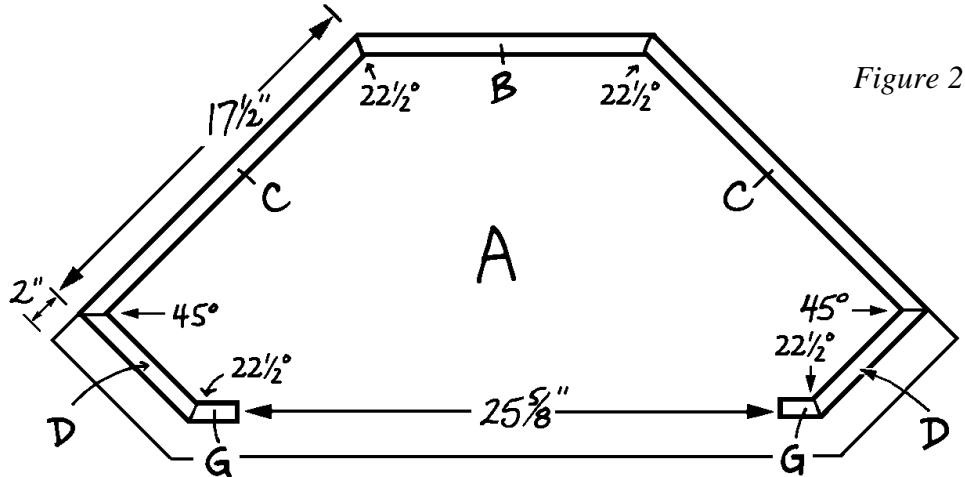
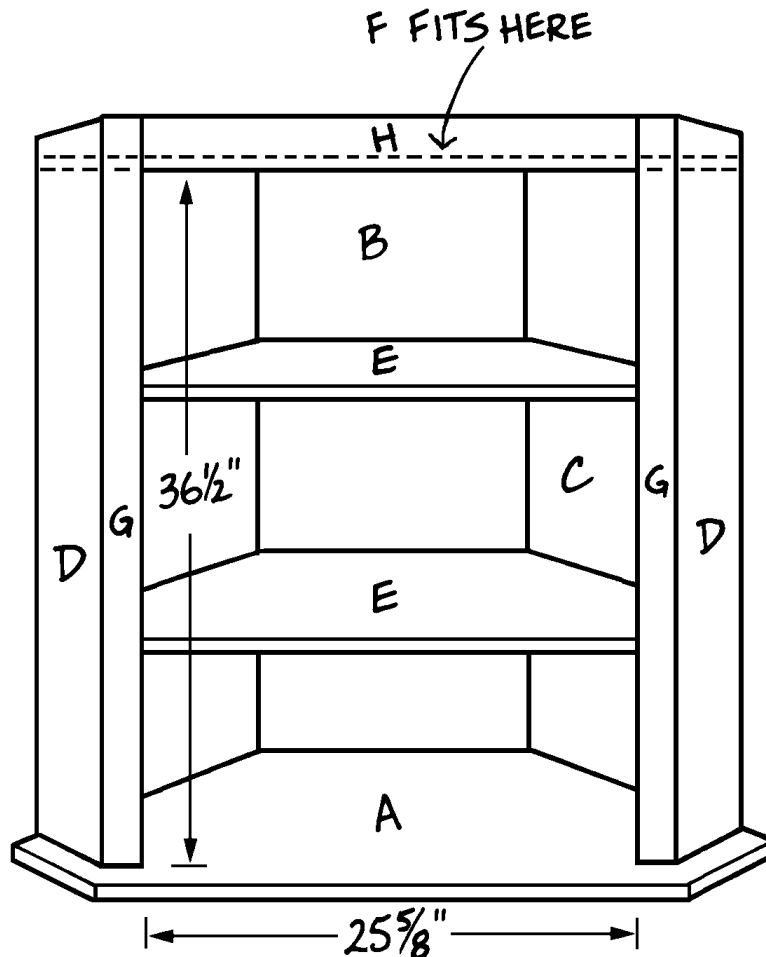

Figure 2
Figure 3
2. Cut one 13-1/2" x 40" upper back (B) from 3/4" thick plywood.
3. Bevel both 40"-long edges of the upper back (B) at 22-1/2" degrees. *Figure 2* shows the angle cuts for all of the beveled edges of the upper cabinet back and sides.
4. Cut two upper sides (C) from 3/4" thick plywood, each measuring 17-1/2" by 40".
5. Bevel one of the 40"-long edges of each upper side (C) at 22-1/2 degrees and bevel the opposite edge at 45-degrees as shown in *Figure 2*.
6. Cut two upper fronts (D) from 1 x 6 pine, each 40" long.
7. Bevel one of the 40"-long edges of each of the upper fronts (D) at 22-1/2 degrees. Bevel the opposite edge at 45 degrees.
8. The assembly of the upper cabinet is shown in *Figures 2* and *3*. You would probably be wise to enlist the assistance of a willing helper (or two) to accomplish this task. Study both diagrams to familiarize yourself with how the pieces go together. Assembly won't be the best of times if you have to say, "hand me that book again—how does it fit together?"
As shown in *Figures 2* and *3*, the upper back (B), upper sides (C) and upper fronts (D) stand on end on top of the upper floor (A). The upper back (B) is set flush with the 13-1/2" edge of the upper floor (A), with its narrower face on the inside of the cabinet. The upper sides (C) are flush with the 19-1/2" edges of the upper floor (A), and their 22-1/2-degree beveled edges fit against the matching beveled edges of the upper back (B). Notice, however, that the 178-1/2"-long end of each upper side (C) is 2" shorter than the corresponding 19-1/2" edge of the upper floor (A). The excess width of the upper floor (A) creates a small "shelf" between the upper and lower cabinet assemblies (see *Figure 3*). This becomes an important design element in the finished project.
9. Fit the 22-1/2-degree beveled edge of one upper side (C) against the matching beveled edge of the upper back (B), positioning the side (C) so that its outer face is flush with the edge of the upper floor (A). Glue the parts together and insert 1-1/4" screws through the upper floor (A) and into the edge of the upper side (C), spacing the screws about 3" apart. Then insert 3d finishing nails through the bevel in the upper back (B) and into the beveled edge of the upper side (C), spacing the nails about 4" apart.
10. Repeat Step 9 to attach the remaining upper side (C) to the upper floor (A) and the upper back (B).
11. The next step is to add the two fronts (D), using *Figure 2* as a guide. Note that the 45-degree beveled edge of each front (D) fits against the matching bevel on the adjacent upper side (C). Glue the parts together and insert 1-1/4" screws through the upper floor (A) into the edges of the upper fronts (D), spacing the screws about 3' apart. Secure the bevels with 3d finishing nails spaced about 4" apart.
3. Bevel one 40"-long edge of each upper vertical facer (G) at 22-1/2 degrees, as shown in *Figure 2*.
4. To avoid later problems with the doors, perform this next step without using any glue. Using *Figures 2* and *3* as guides, attach one upper vertical facer (G) to the left upper front (D), the two upper shelves (E), and the upper top (F). Note that the 22-1/2-degree bevels on the upper vertical facer (G) and the upper front (D) face each other. Secure the meeting beveled edges of the upper front (D) and the upper vertical facer (G) by driving two 3d finishing nails just far enough in to hold the piece in place.
5. Repeat Step 4 to attach the remaining upper vertical facer (G) to the right-hand side of the cabinet assembly, again omitting the glue.
6. Check the width of the opening between the two upper vertical facers (G) along the exposed edge of the top (F). Also measure the width of the opening across the middle and bottom. The opening should measure exactly 25-5/8", or the doors will not fit properly. To adjust the opening, remove the two upper vertical facers (G) and alter them as necessary. Then glue the adjusted facers in place and insert 1-1/4" screws through the upper floor (A) and into the bottom edges of the upper vertical facers (G). Secure the meeting beveled edges of the upper front (D) and the upper vertical facer (G) with 3d finishing nails spaced about 6" apart. Also drive nails through the facers (G) and into the edges of the shelves (E) and the upper top (F).
7. Cut one 25-5/8"-long upper horizontal facer (H) from 1 x 4 pine.
8. Fit the upper horizontal facer (H) between the two upper vertical facers (G) and position it so that its bottom edge is flush with the lower face of the upper top (F). Drive two 3d finishing nails through the upper horizontal facer (H) into the edge of the upper top (F), hammering them in only far enough to hold the piece in place.
9. Now measure the opening from top to bottom on the left and right sides and in the middle. It should measure exactly 36-1/2", as shown in *Figure 3*. If necessary, remove the upper horizontal facer (H) and alter it so that the opening conforms to these measurements.
10. Replace the upper horizontal facer (H), glue it in place, and secure with 3d finishing nails placed about 3" apart and driven into the edge of the upper top (F). Also toenail through the ends of the upper horizontal facer (H) into each of the upper vertical facers (G).